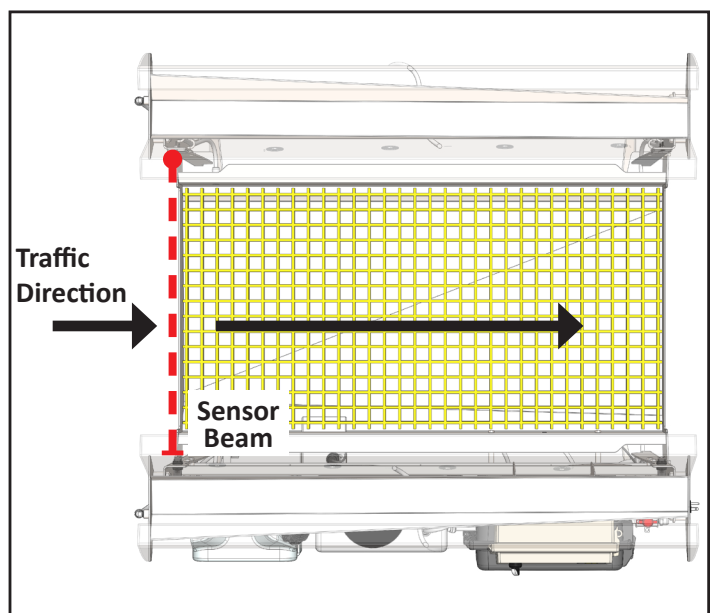

Fig. 8.3: Sensor beam and traffic direction
**NOTE:** The hand spray is designed to activate only in one traffic flow direction [Figure 8.3]. Flow direction can be altered if necessary (see page 7 for more information).